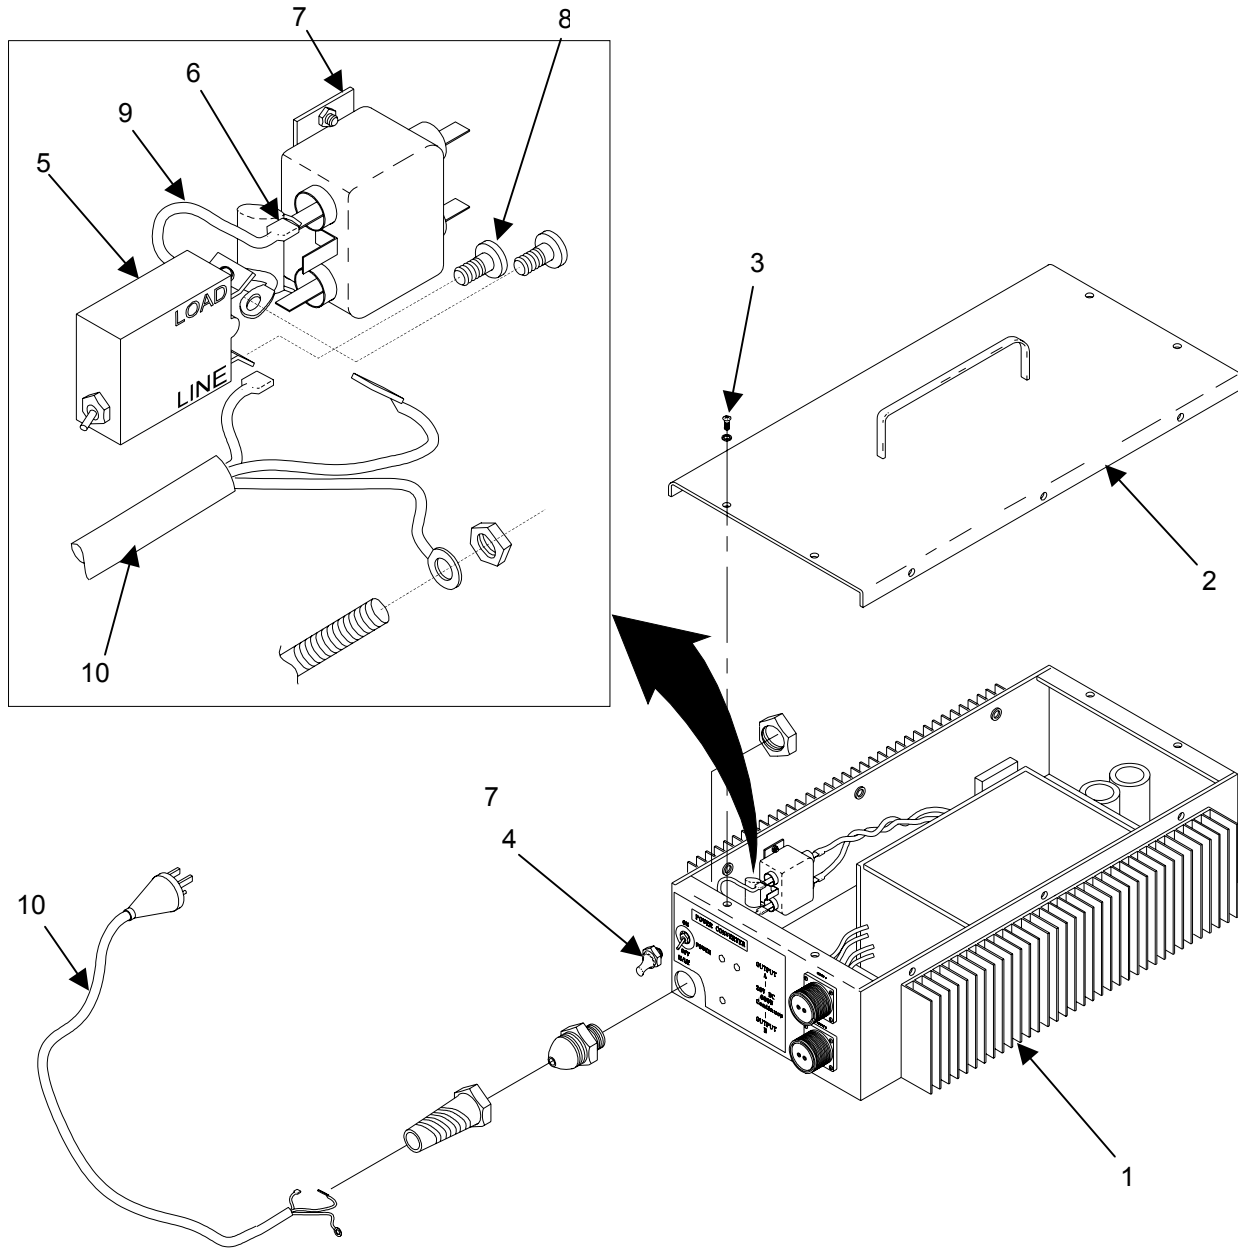

Figure 2. Test the Power Converter (MS0150)
6. Make note of the location, color, and connection point of the two wires connected to the main power switch (**figure 2, item 5**) inside the power converter (**figure 2, item 1**) to ensure that the wires are reconnected properly when the switch is replaced.
7. Reach inside the power converter case and disconnect the spade connector (**figure 2, item 6**) which connects the power switch (**figure 2, item 5**) to the AC filter block (**figure 2, item 7**).
8. Loosen and remove the screw (**figure 2, item 8**) that secures the wire (**figure 2, item 9**) to the second terminal. Set this wire aside.
9. Remove the main power switch (**figure 2, item 5**) from the power converter.
10. Test for continuity through the power switch (**figure 2, item 5**) with a multimeter. If the power switch is not found to be defective, check for continuity through the power cord (**figure 2, item 10**). If both are not defective, the entire power converter should be replaced.
11. Install the main power switch (**figure 2, item 5**), install the short wire (**figure 2, item 9**) set aside earlier on the switch terminal labeled LOAD. Secure with screw.
12. Place the switch (**figure 2, item 5**) in position in the power converter's front panel. Be sure to position the switch so that the screw terminal labeled LOAD is facing up and out of the case while the terminal labeled LINE is facing down into the power converter case.
13. Install the hex nut with protective rubber cap (**figure 2, item 4**) on the front of the power switch (**figure 2, item 5**).
14. Connect the spade terminal (**figure 2, item 6**) to the lug on the AC Filter (**figure 2, item 7**).
15. Secure power converter cover (**figure 2, item 2**) with screws and lockwashers (**figure 2, item 3**).